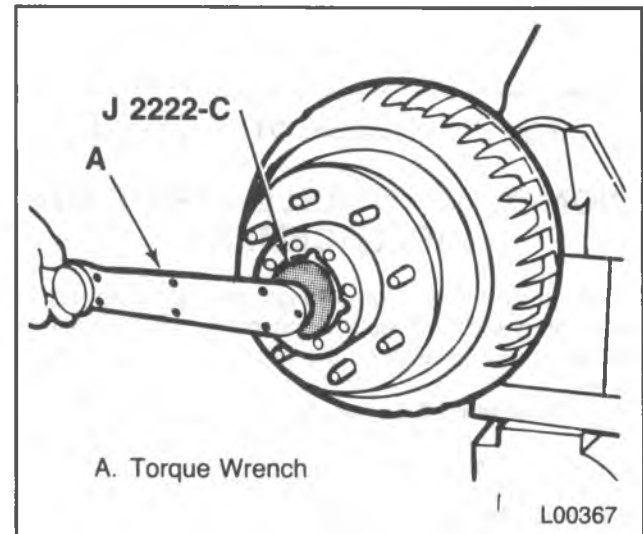

Figure 32 — Tightening the Adjusting Nut
- Adjusting nut (58) to 68 N·m (50 ft. lbs.). Tighten with J 2222-C (figure 32) while rotating the hub assembly, making certain the bearing cones are seated and in contact with the spindle shoulder.